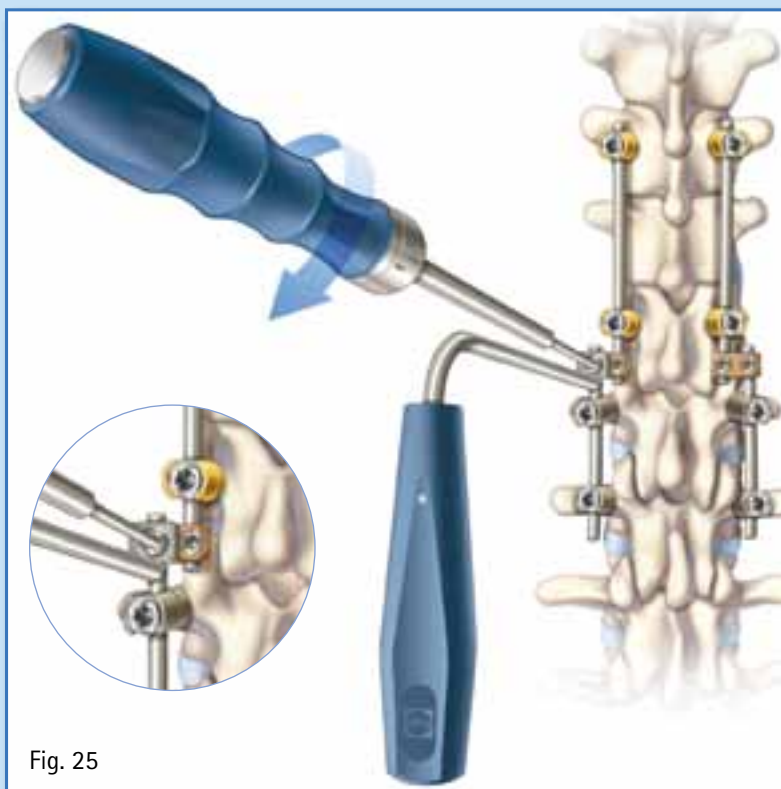

Fig. 25
- Final tighten by applying 4 Nm (36 in/lbs) of torque using the torque wrench screwdriver (FW207R) and rod-to-rod connector counter torque device (FW495R). (Fig. 25)